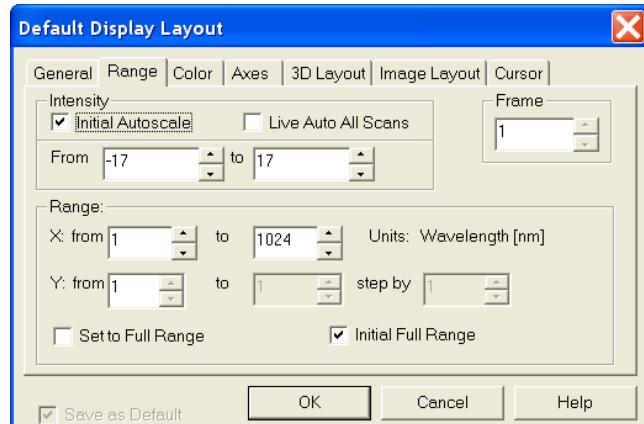

Figure 98. Display Layout/Range tab
2. Click on the **Range** tab (Figure 98). **Initial Autoscale** and **Set to Full Range** should be selected. The Frame number should be “1.”